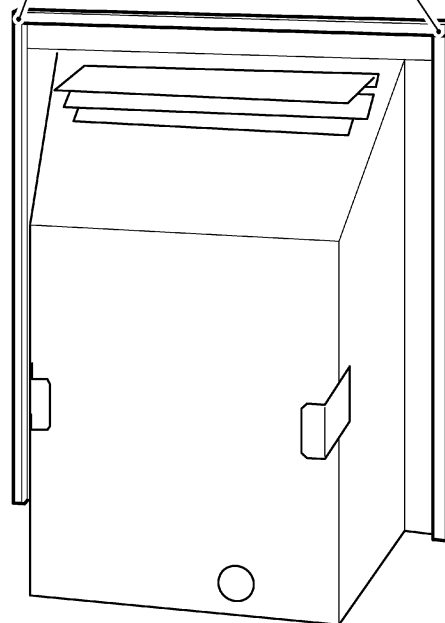

Figure 13. Fitting the foam seal
7. There is a length of self adhesive foam seal supplied with the fire. This will need to be fitted to the outer rear edges of the side and top flanges of the hotbox. Cut a 485mm length of foam seal. Be careful not to stretch the seal when measuring. Remove the protective backing from the foam seal and fit this to the rear of the top flange (See figure 13). Cut two 580mm lengths. Fit these to the rear outer edges of the side flanges. Ensure that there is no gap between the foam seals where they meet at the top flange (See figure 13)